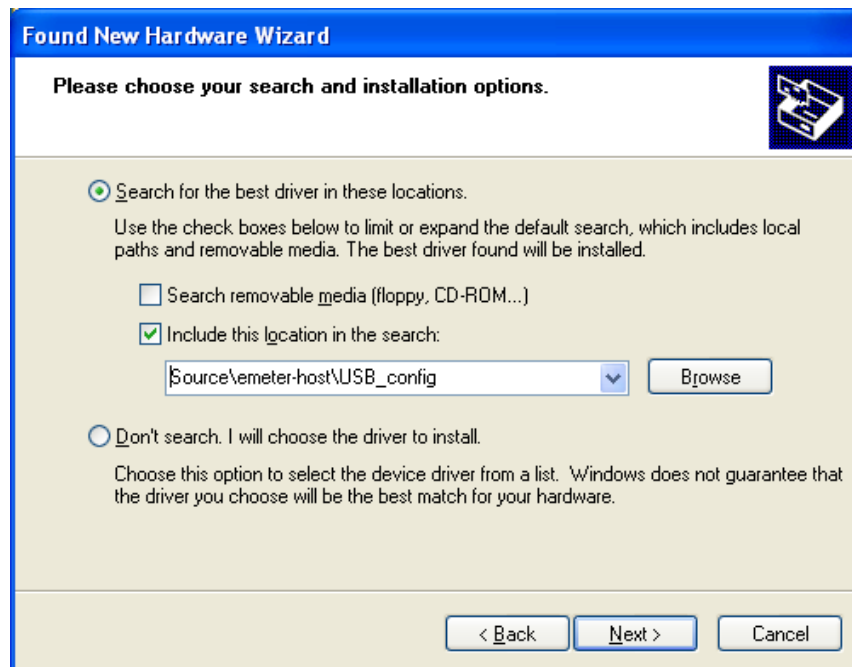

Figure 26. Driver Installation Step 5
5. Select the *Install from a list or specific location (Advanced)* option and click *Next*. The screen shown in Figure 26 should appear.